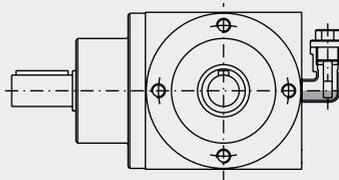

Figure 17: Pipe elbow
- d) **Carefully unscrew the dipstick,** wipe clean with a lint-free cloth, screw in again then remove and read off the oil level (Figure 17).